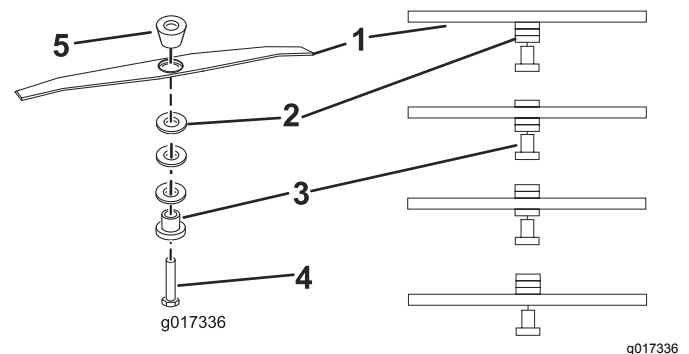
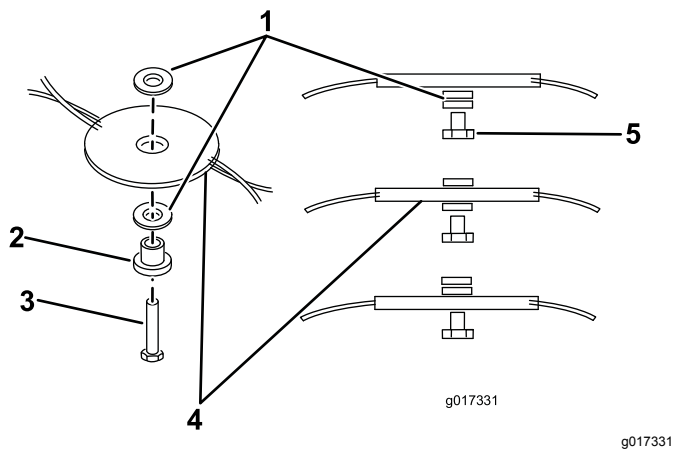

Figure 12
Figure 13
6. Reposition the spacers to the desired height, then reinstall the flexiblade/cutterbar (Figure 12, Figure 13).